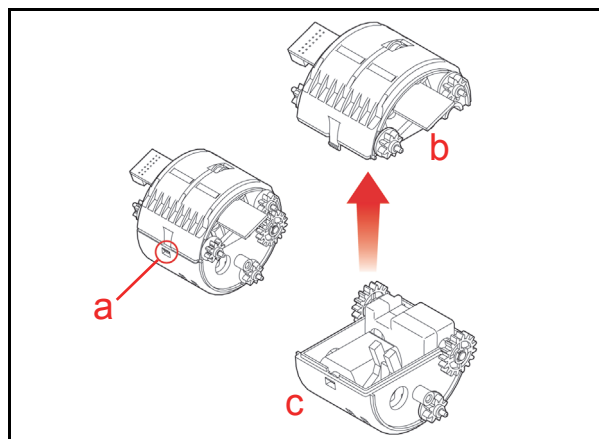

Figure 4-11 Transport Drum Separation
8. Twist and pry the upper portion of the Center Guide Section up (See Figure 4-11 b), and remove it from the Lower Center Guide Section (See Figure 4-11 c).